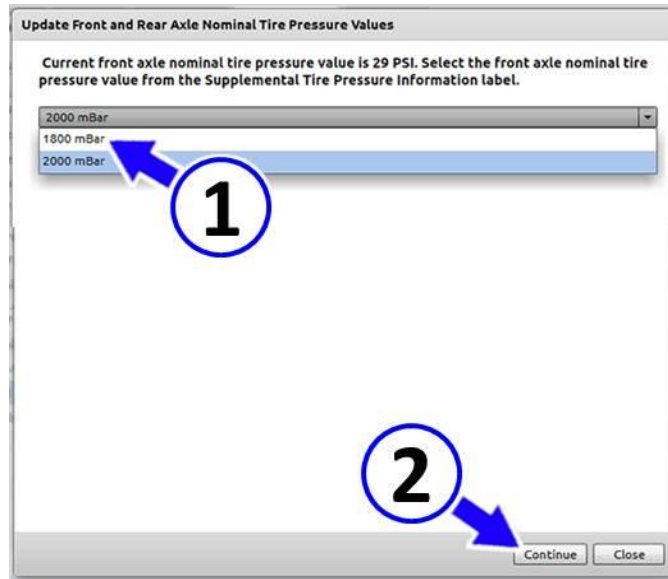

Fig. 5 Set Front Axle To 1800 mBar
6. The window shown in (Fig. 5) informs that the value set for the front tires is 2000 mBar (29 psi). Open the drop-down menu (1) and change the front tires pressure value to **1800 mBar (26 psi)** as shown in (Fig. 5).
7. Press the "Continue" button (2) as shown in (Fig. 5)